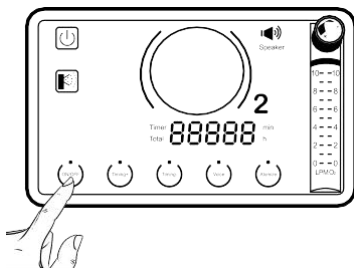

Figure 7
5. Press ON/OFF button, the device is turned on. You can begin breathing from the device immediately even though it typically takes mins to reach oxygen purity specifications. (Figure 7)